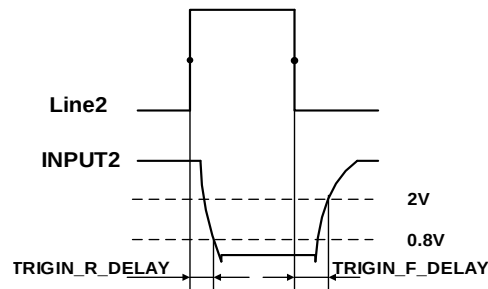

Figure 7-12 Parameter of Line2 input circuit
- Input rising time delay: <2μs (0°C~45°C), parameter description as shown in Figure 7-12
- Input falling time delay: $<2\mu\text{s}$ ($0^{\circ}\text{C}\sim 45^{\circ}\text{C}$), parameter description as shown in Figure 7-12